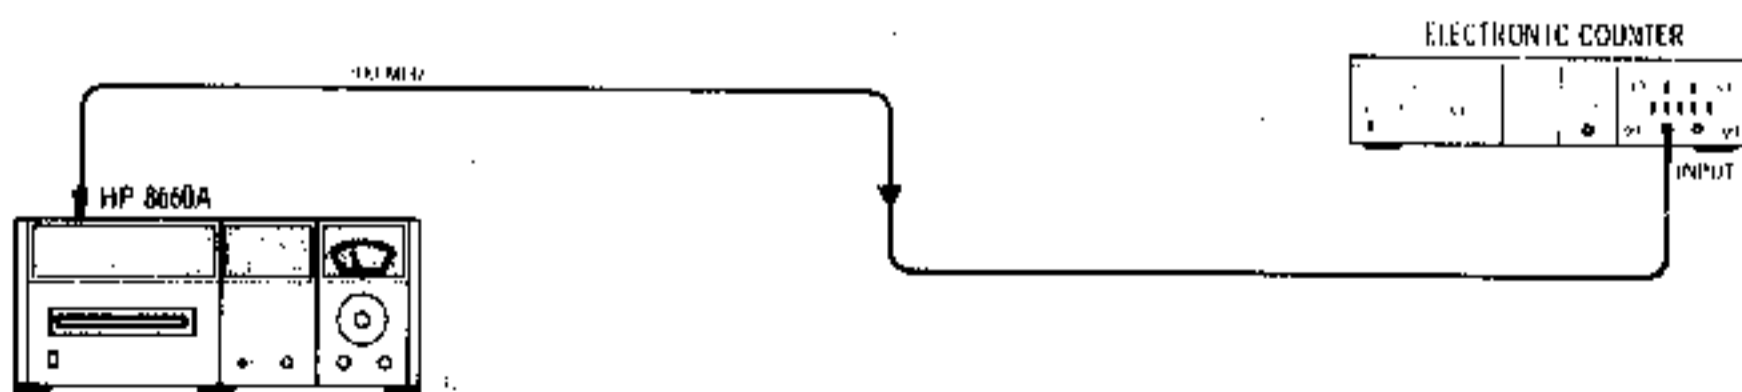

Figure 5-4. 100 MHz Adjustment Test Setup
- a. Connect the electronic counter to the 100 MHz output on the A4A4 assembly. (See Figure 5-4).